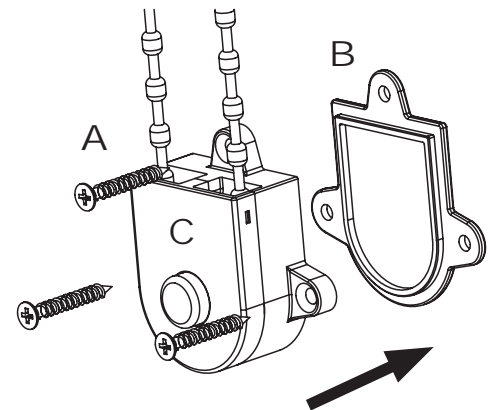
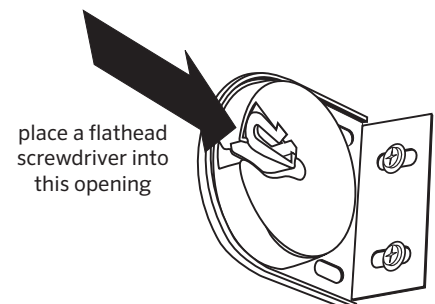

Fig. 1
Fig. 2
a. Place a flathead screwdriver into the opening and press gently and it will release the tube from the brackets. (fig. 2)
a. Insert the open loop on the crank (fig. 1) into the loop of the shade (fig. 2).